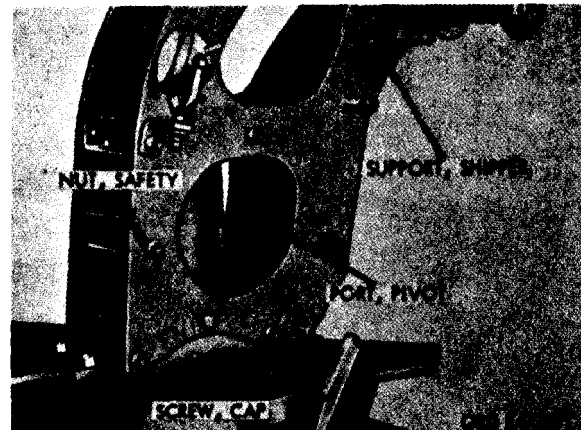

Figure 471. Disconnect points for shipper support removal
- (1) Remove pivot post and shipper support.
- (a)** Remove ten safety nuts and cap strewn and two cap screws and lockwashers from shipper support (fig. 471). Remove support from pivot post.